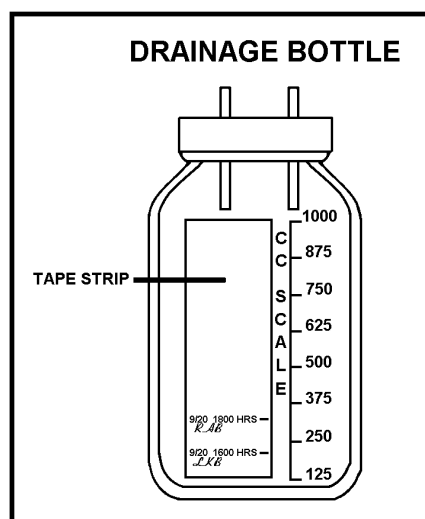

Figure 3-62
- b. Note the amount of drainage and measure the drainage at the prescribed time intervals. (See Figure 3-62.)